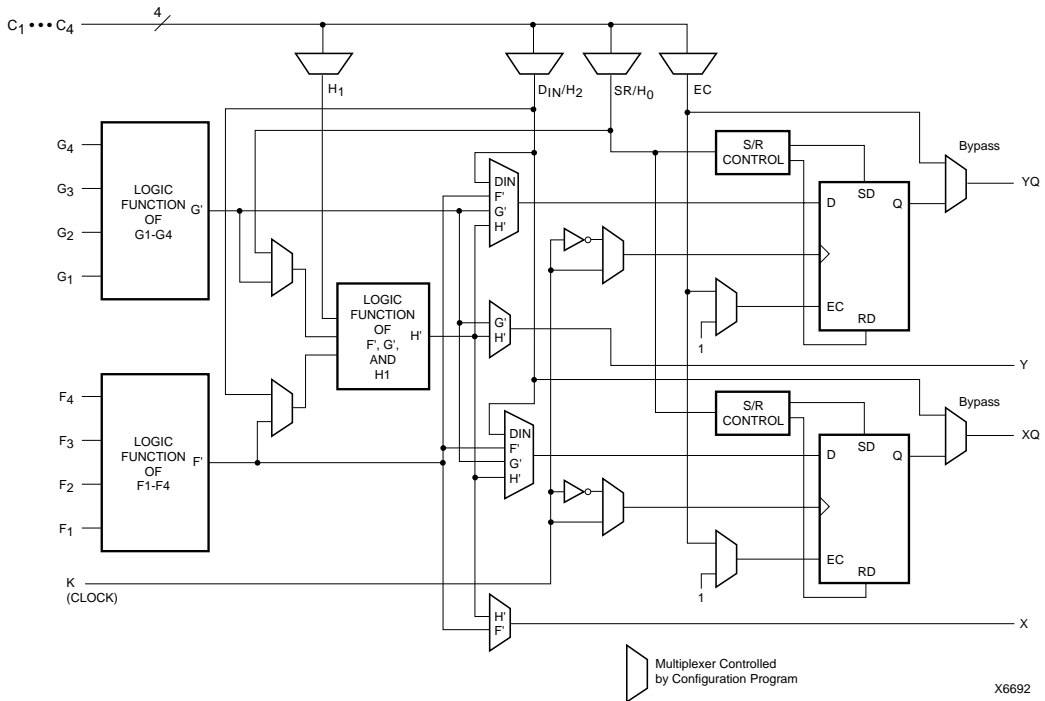

Figure 2: Simplified Block Diagram of XC4000 Series CLB (RAM and Carry Logic functions not shown)
Configurable Logic Blocks implement most of the logic in an FPGA. The principal CLB elements are shown in Figure 2. Two 4-input function generators (F and G) offer unrestricted versatility. Most combinatorial logic functions need four or fewer inputs. However, a third function generator (H) is provided. The H function generator has three inputs. Either zero, one, or two of these inputs can be the outputs of F and G; the other input(s) are from outside the CLB. The CLB can, therefore, implement certain functions of up to nine variables, like parity check or expandable-identity comparison of two sets of four inputs.
A separate Global Set/Reset line (not shown in Figure 2) sets or clears each storage element during power-up, reconfiguration, or when a dedicated Reset net is driven active. This global net (GSR) does not compete with other routing resources; it uses a dedicated distribution network.
Two fast feed-through paths are available, as shown in Figure 2. A two-to-one multiplexer on each of the XQ and YQ outputs selects between a storage element output and any of the control inputs. This bypass is sometimes used by the automated router to repower internal signals.
Multiplexers in the CLB map the four control inputs (C1 - C4 in Figure 2) into the four internal control signals (H1, DIN/H2, SR/H0, and EC). Any of these inputs can drive any of the four internal control signals.